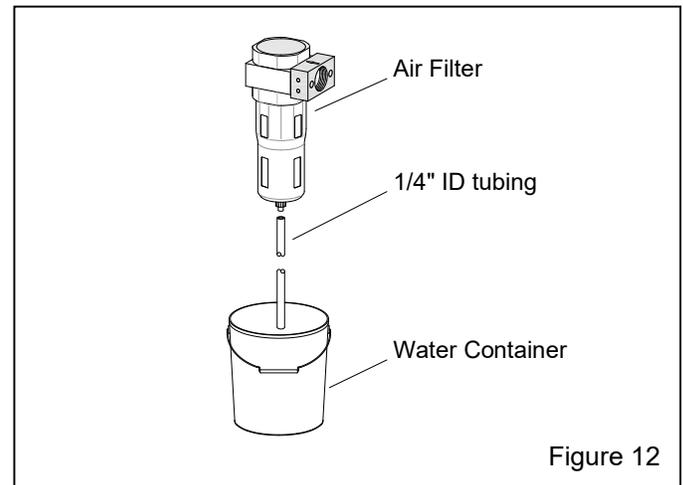

Figure 12
**2.9.3** Insert a section of 1/4" ID tubing onto into the automatic-drain stem at the bottom of the compressed-air filter, as shown in Figure 12, and place the other end into a pail or other suitable water container. When the filter automatically drains, the water drains into the container.